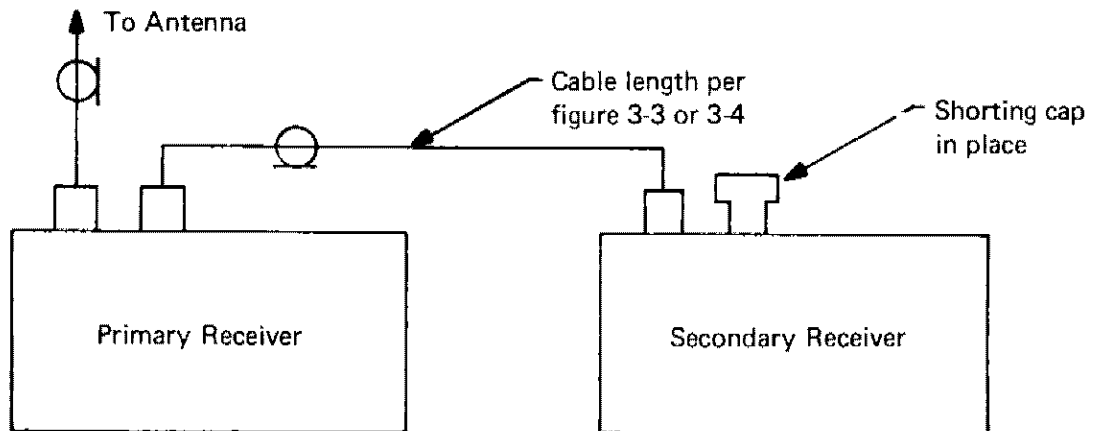
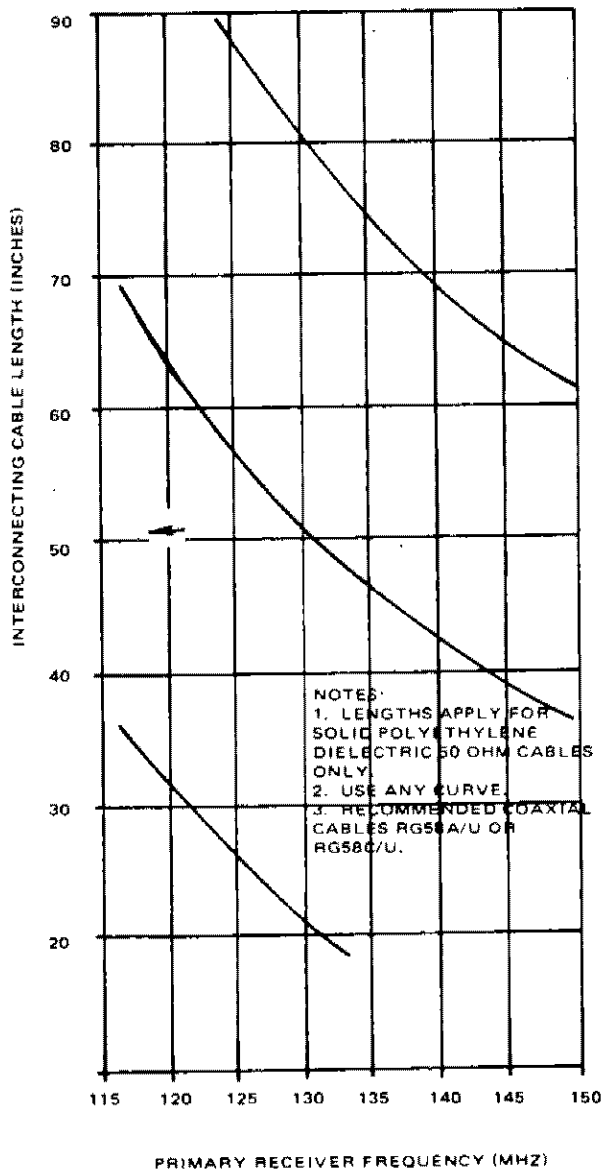

Figure 3-2. Connection for Two Receivers Operating From Common Antenna
Figure 3-3. VHF Interconnecting Cable Length vs. Frequency
- b. Connect the two receivers as shown in figure 3-2. The proper length of cable between the two receivers must be used. The cable length is determined by the frequency of the primary receiver (see figure 3-2). See figure 3-3 or 3-4 for the proper cable length. Where more than one length is given, either may be used. At the higher frequencies, cable lengths become more critical for optimum receiver performance. Length is to be measured to the end of the center pin of the coaxial line. Total length should include any adapters used when the cable is not terminated with type N connectors. Retain antenna strap at station. \*